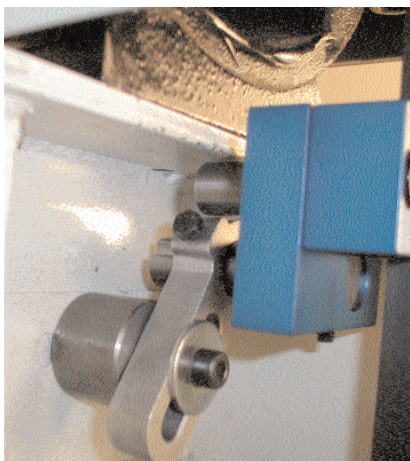

Fig. 16
3. Assemble the adjustment bracket to the band saw. See Fig. 16.
Ensure that the back blade guide is free to move back and is not obstructed by the band saw. See Fig. 16.